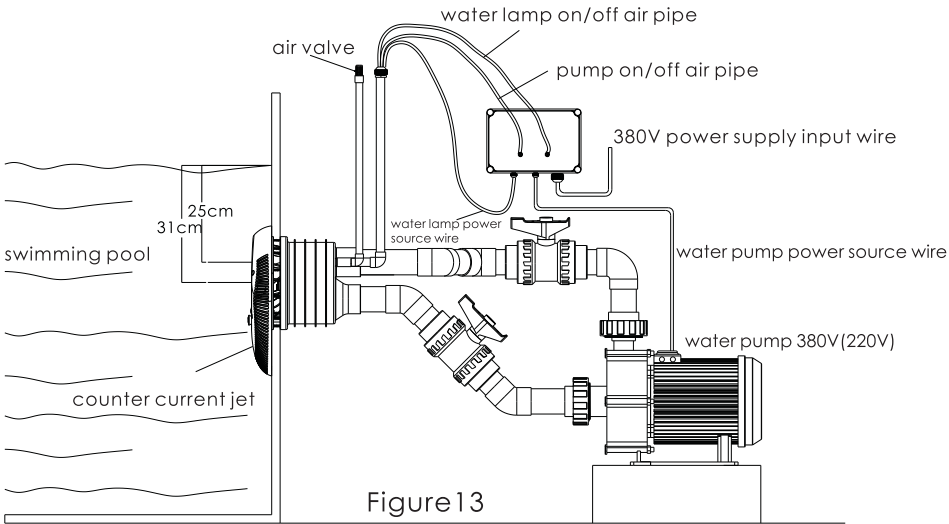

Figure13
- Please refer to figure 13 for the whole installation.